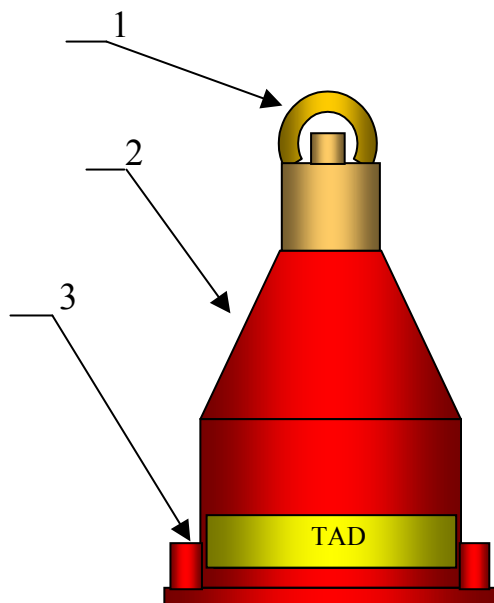

Figure 1. Schematic of TAD
- A schematic of **TAD** is shown in Figure 1.